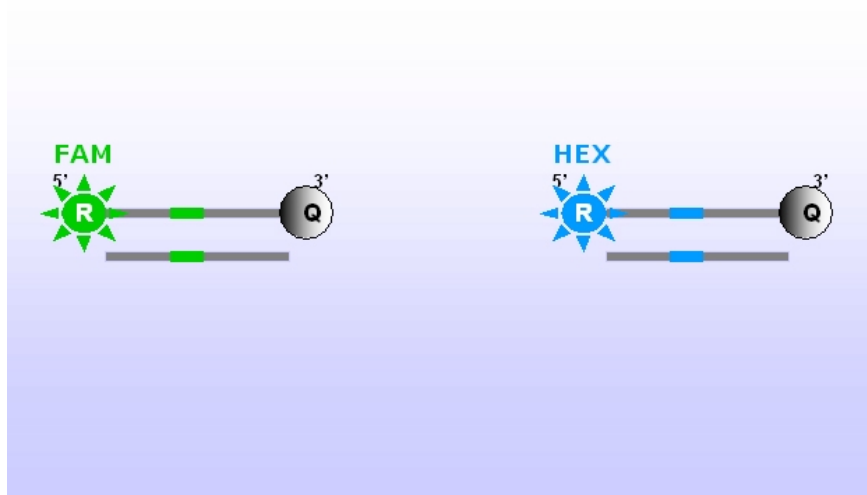

Fig. 1
The kit takes advantage of an Oligo Mix containing a Mycobacterium Avium Complex's specific probes linked at its 5'-end to a FAM molecule (6-carboxyfluorescein). In addition to this, the Oligo Mix contains internal control (IC) specific probes, linked at its 5'-end to a HEX molecule (hexa-chloro-fluoresceine). The two probes have at their 3'-ends a quencher called BHQ-1 (fig.1). If excited, the integral probe does not emit fluorescence, because the closeness of the quencher to the reporter prevents this last from emitting fluorescence (quenching effect).